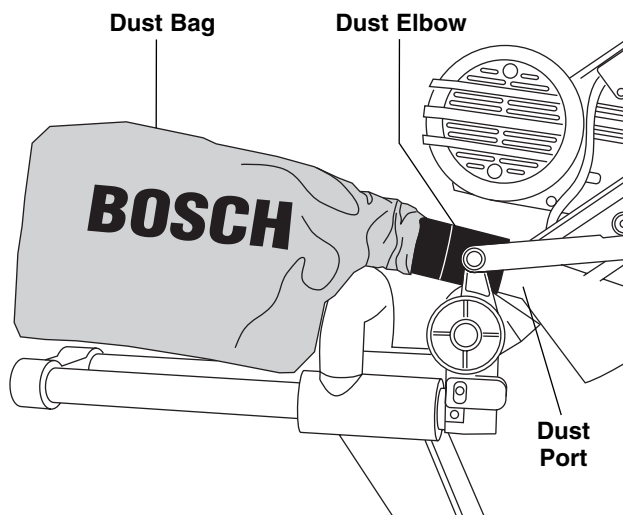

Figure 4. Dust Elbow and Dust Bag
1. With the miter arm locked in the down position, push the dust elbow onto the dust port. Push the dust bag onto the elbow and rotate both to desired position. (Figure 4).